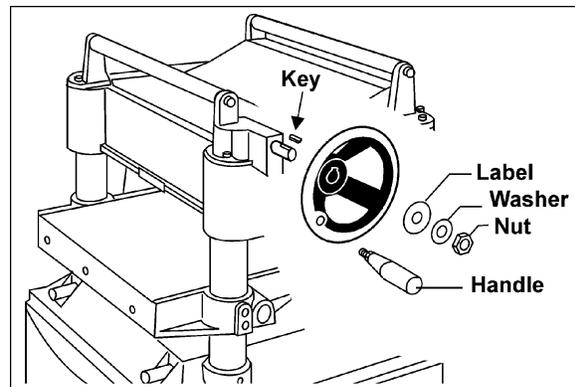

Figure 7
1. Place the key into the slot on the shaft (Figure 7), and mount the handwheel to the shaft, making sure it is oriented, so it slips over the key.